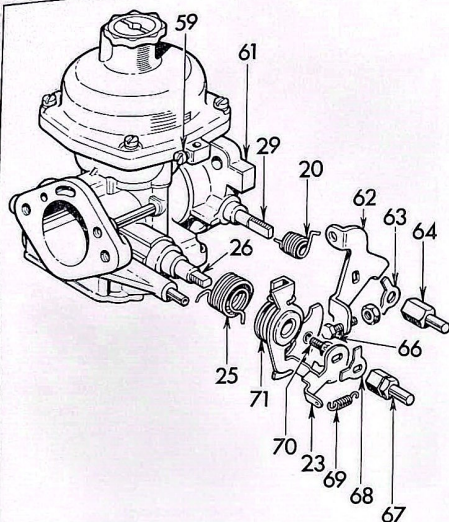

Fig. 5. Starter bar and throttle lever details
2. Spring the circlip (32) over a groove at the end of the starter bar spindle (26) and with the flat milled face uppermost, insert the spindle into the carburettor body.
3. With the larger coils leading, place the spring (25) over the large part of the spindle boss and locate the spring ends at each side of the fuel pipe.
4. Assemble the choke cam lever assembly (71) on the smaller diameter of the spindle boss, placing the cam adjacent to the spring (25) and towards the throttle spindle.
5. Locate the lever (23) on the flats of the spindle (26) and in correct relation to the cam lever assembly (71) as shown on (Fig. 5). Pull the outer end of the spring (25) into engagement with a cut-out on the lower extremity of the lever (23).
6. Fit the lockplate (68), tighten the coupling nut (67) and lock it by turning the ends of the lockplate. Insert the ends of the spring (69) through holes provided at the extremities of the levers (23) and (71).